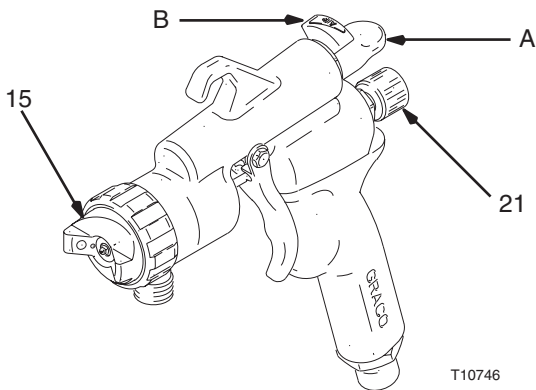

FIG. 6
The spray pattern and direction are determined by the pattern selection knob (A) fluid adjustment knob (21) and air cap (15) positions. Fig. 6.
The air control (B) controls the TOTAL air to the pattern and gun. Fig. 6.